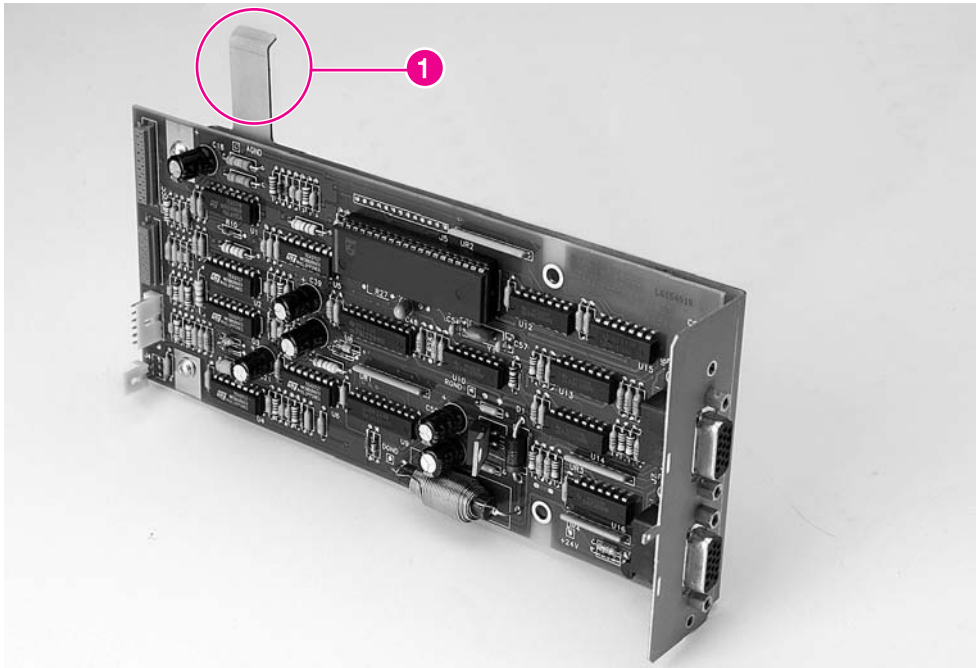

Figure 6-186 Stapler Controller PCA (3 of 3)
- 5 The board is supported by a hooked tab at the top of the card (see figure 6-186, callout 1). Slide the board to the left and then down.